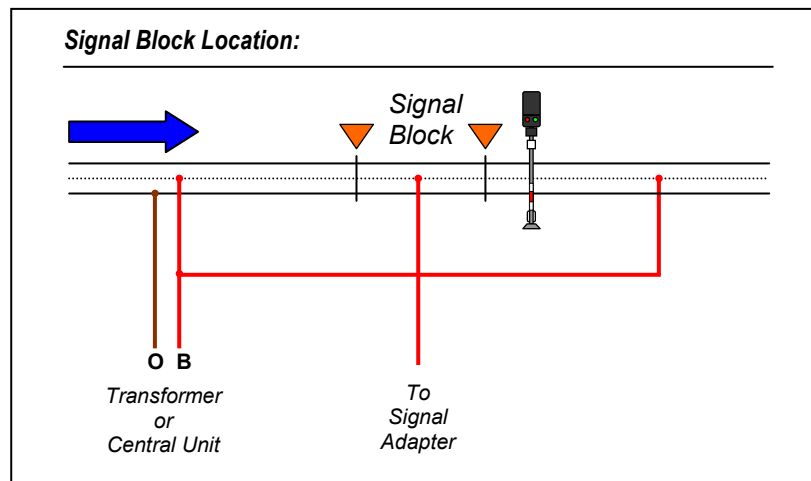

Figure 1. Signal Block Installation
- 1) Referring to Figure 1 below, install the signal block section in the desired location of the layout using the supplied center rail insulators and feeder wire for Märklin C-Track. The following Märklin components may be used as substitutions or replacements: